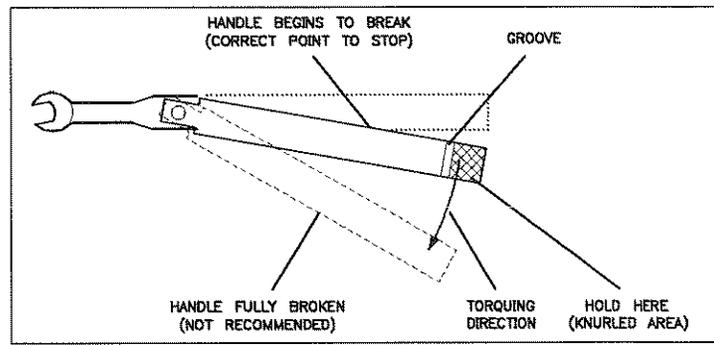

Figure 3-27. Tighten Only to the Torque Wrench Break Point
- d. Tighten the connection just to the torque wrench “break” point (the wrench handle gives way at its internal pivot point. See Figure 3-27). *Do not* tighten the connection further.